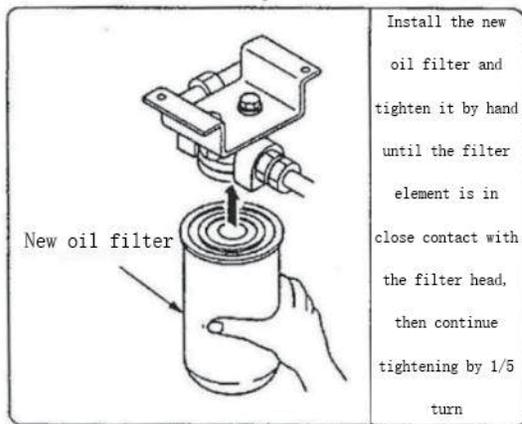

Figure 6-2
6.3.4 An example of oil filter replacement is shown in Figure 6-2: